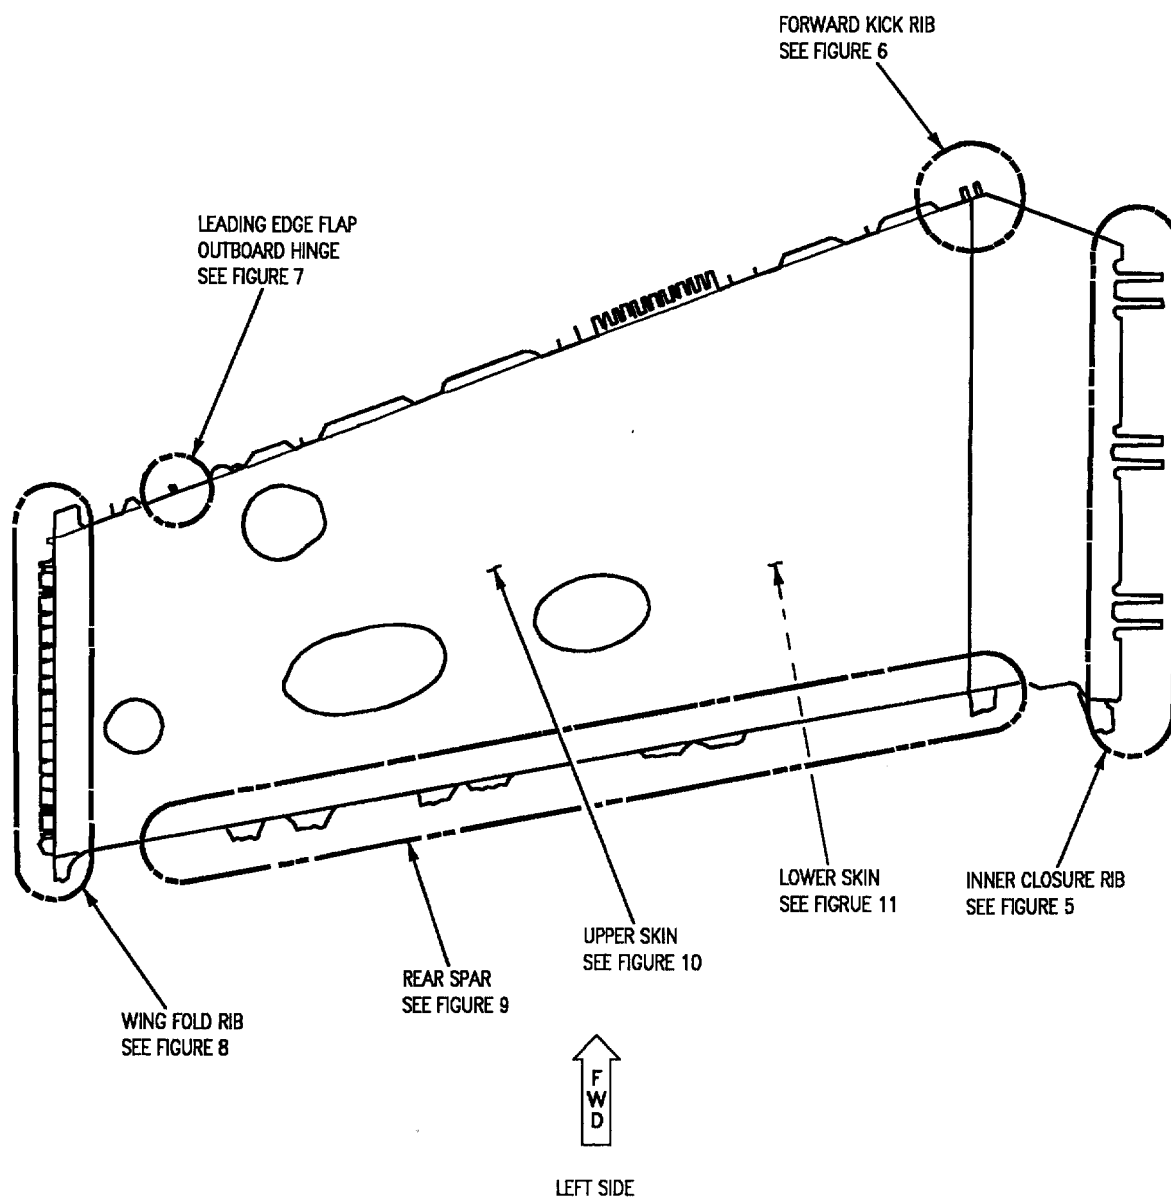

Figure 4. Channel Groove Seal Index
21. The paragraphs below are procedures for specific channel groove seal areas. Each paragraph will cover steps unique to its designated area. General Re-sealing Procedures, this WP, will be referred to for injection procedures typical for channel groove seals. See figure 4 for channel groove seal index.